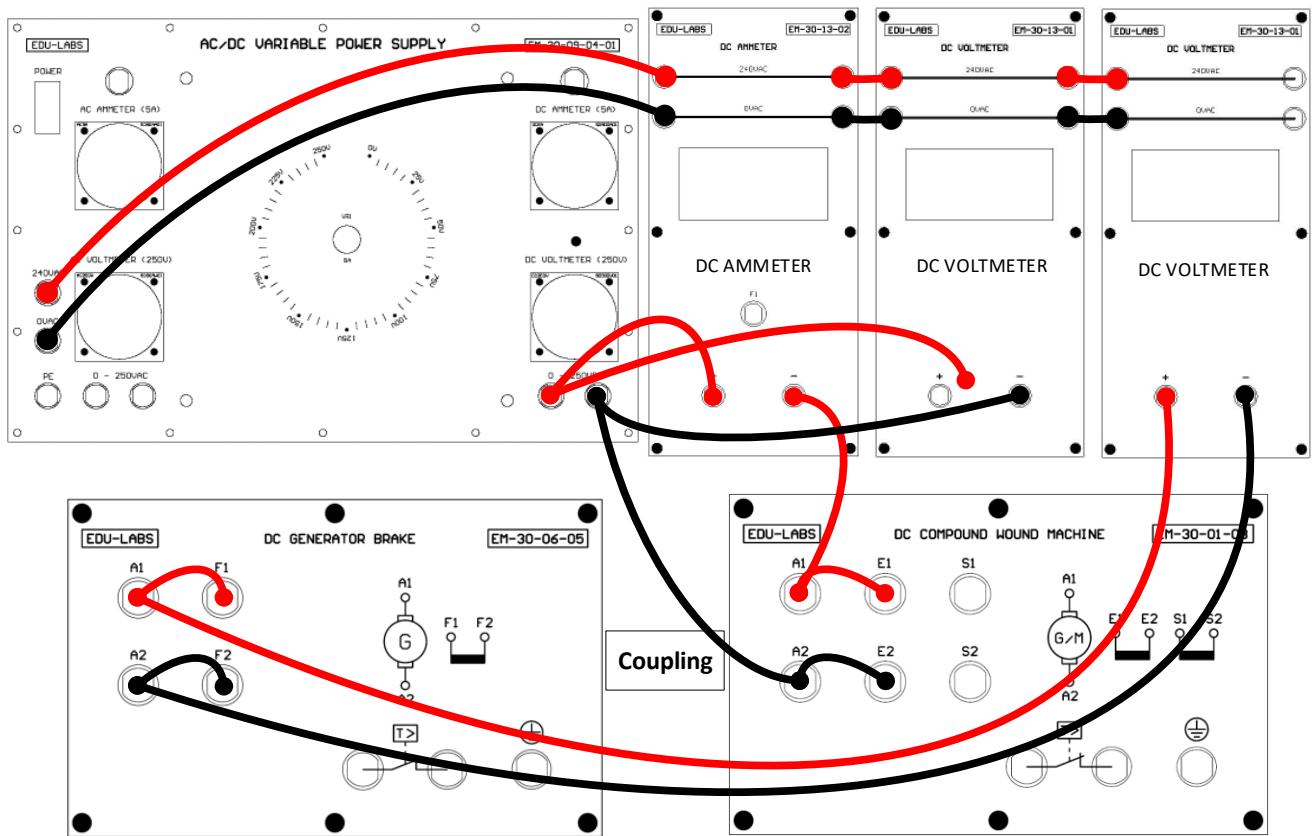

Fig 5-1: Wiring Diagram
1. Connect as shown in Fig 5-1